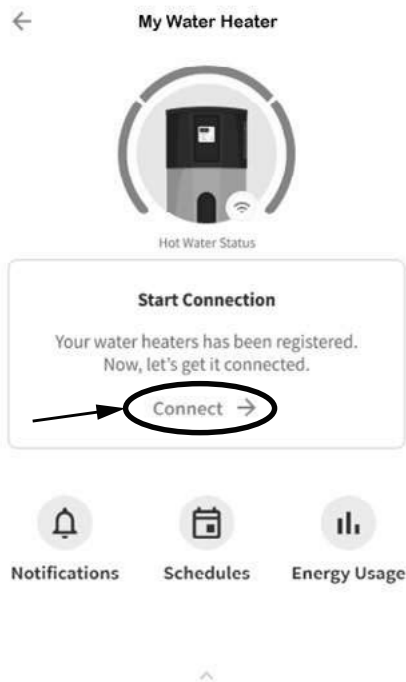

Figure 12 - Preparing to connect
- 28 The app will begin the process of connecting your water heater to your Wi-Fi Network. Tap the "Connect" option to proceed. See Figure 12.